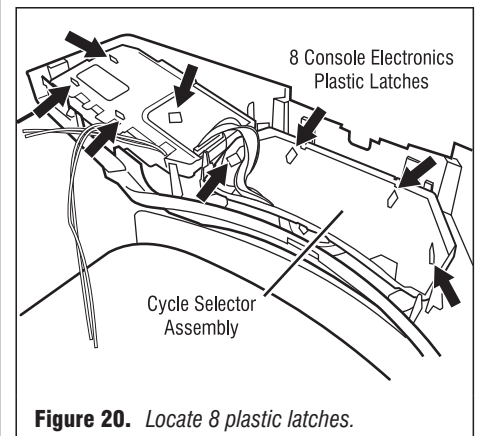

Figure 20. Locate 8 plastic latches.
6. The console electronics is split into two assemblies connected by two cables. Each assembly is fastened to the decorative piece by four plastic latches. To remove these assemblies, gently compress the plastic latches while pulling up on the assembly. For the cycle selector assembly, the cycle selector knob must first be removed by firmly pulling on it or gently prying it straight upward. See figure 20.